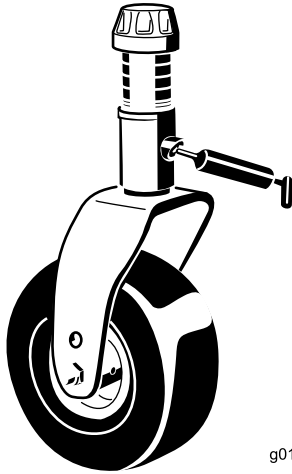

Figure 20
- Castor fork shaft bushings (4) (Figure 20).